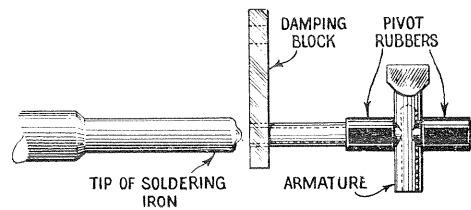

Figure 9—Replacing Damping Block
- (d) After properly locating the damping block, a soldering iron should be applied to the armature so that the block will melt slightly at its point of contact with the armature. A special tip, constructed as shown in Figure 9, will prove desirable for fusing the block in place. The iron should be applied only long enough to melt the block sufficiently to cause a small bulge